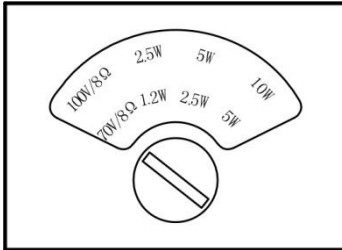

Figure 2: Adjust Tap Selector
4. Adjust each speaker to the appropriate tap setting (see Figure 2).